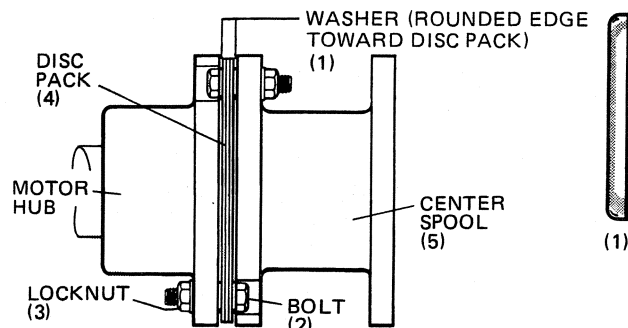

FIG. 3 - DISC PACK ASSEMBLED TO CENTER SPOOL
1. Assemble disc pack (do not rearrange discs, keep disc pack tied together until assembled) to center spool in the following order: (See Fig. 3).
- a. (4) bolts.
- b. (4) washers - assemble the rounded edge toward disc pack.
- d. Place (4) more washers over the ends of bolts with rounded edge against the disc pack.
- f. Place (4) locknuts on the bolts. Do not tighten locknuts.
2. Assemble the center spool with disc pack attached to the motor hub. (Refer to Fig. 3 and 4).